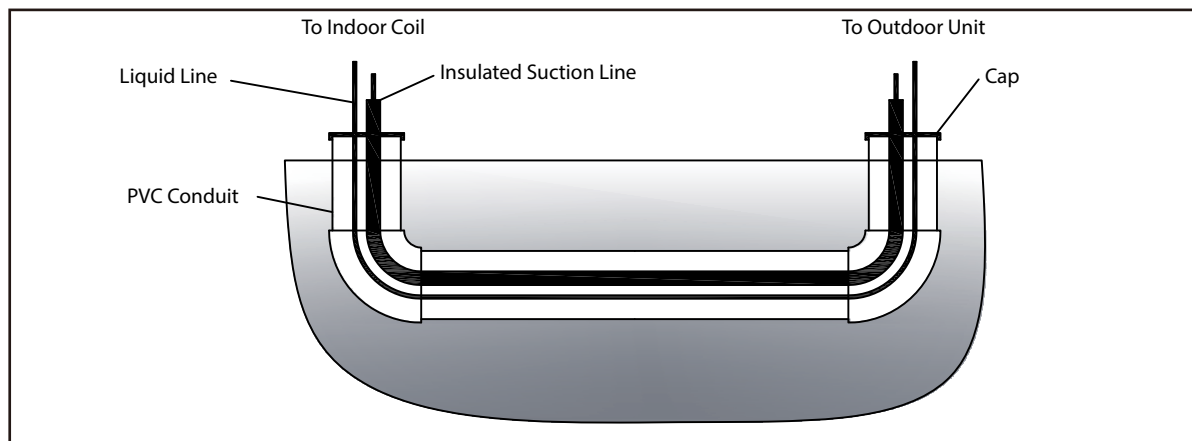

Figure 6-4
- Use PVC piping as a conduit for all underground installations as shown in Figure 6-4 Buried lines should be keep as short as possible.